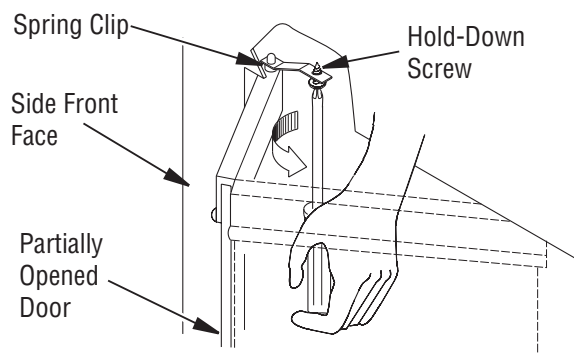

Figure 33 - Adjusting Glass Doors
7. To adjust doors, slide them partially open. Using a screwdriver, loosen hold-down screws in the spring clip (see Figure 33) and pivot plate.